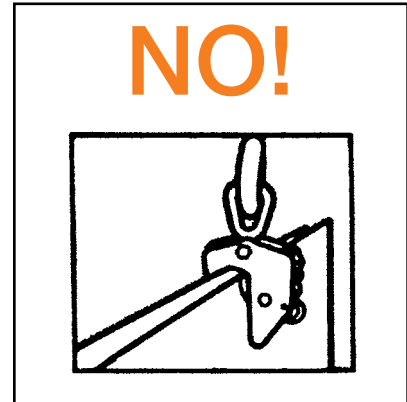

Figure 10
10. **DO NOT** lift more than one plate at a time (Fig. 10), except with horizontal clamps.